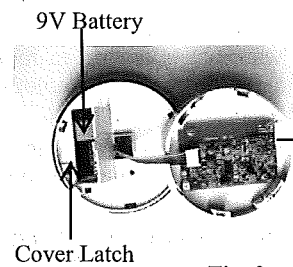

Fig. 3
3. Refer to Fig. 3, open the cover of the battery compartment, connect supplied 9V battery and then close the cover.